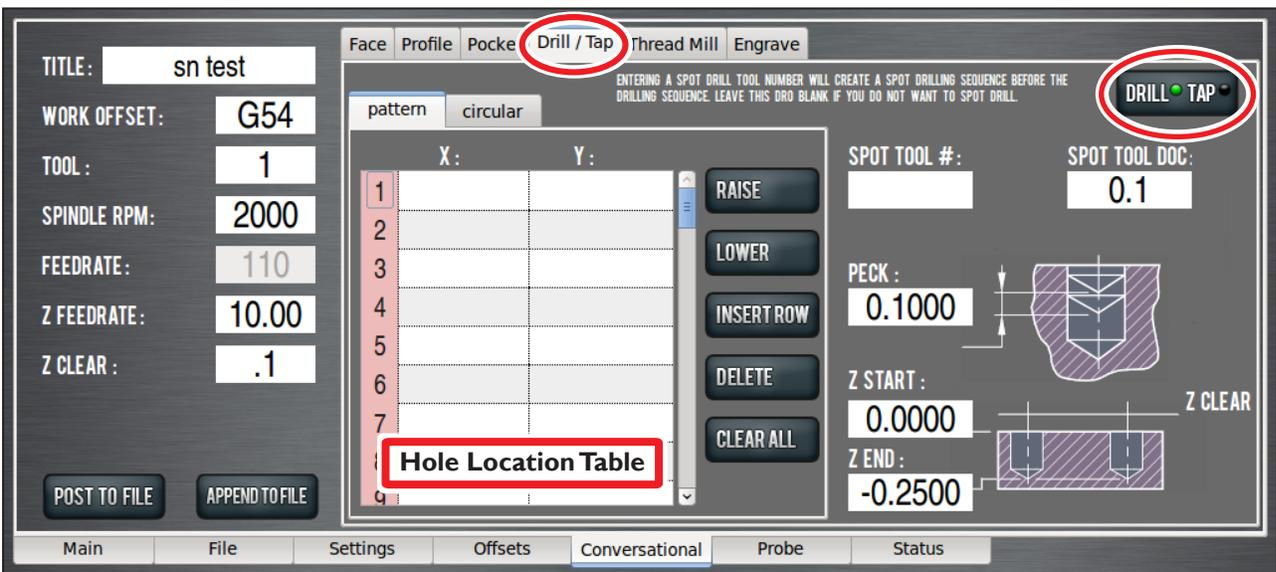

Figure 6.25
*Drill/Tap* provides a means to create a hole location list, then, based on DRO entries, configures an appropriate canned cycle G-code to create holes – either *Pattern* or *Circular* (see **Figure 6.25**).
**Hole Location Table** – This table should be used for making a list of X and Y locations for each hole using the same tool, Z, and common DRO entries (see **Figure 6.25**). To create holes using different tools or other parameters, post the first group, clear the table, enter the next group of locations and other parameters, then append the new list to the existing posted file.
The *Drill* tab uses one of the canned G8x cycles to drill a hole at each location called out in the Hole Location Table (see **Figure 6.25**). The drill cycles available are: G81 – Drill, G82 – Drill with Dwell, and G83 – Drill with Peck (features can not be combined; peck cancels dwell).